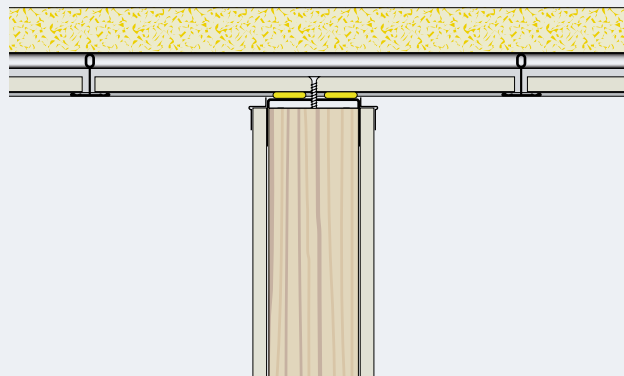

Figure 2: Sound-rated insulation above top-most ceiling.
- 75 mm non-combustible glass wool batts are used 1200 mm either side of the acoustic rated wall (Figure 2).